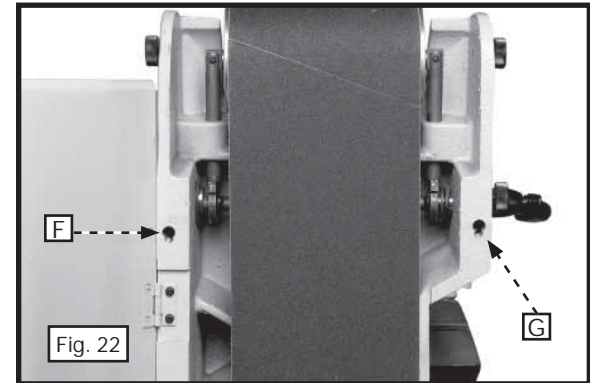

Fig. 20
2. Turn the belt tension lever (C) Fig. 20 counter-clockwise to increase the belt tension.
3. Rotate the belt (D) Fig. 21 by hand, and tighten or loosen the tracking knob (E) Figs. 20 and 21 until the tracking is correct.
4. Turn the tool on and off to check for proper tracking. If the belt is leading to one side or the other, very gently turn the tracking knob (E) Fig. 20 clockwise to move the belt to the right or counter-clockwise to move the belt to the left.